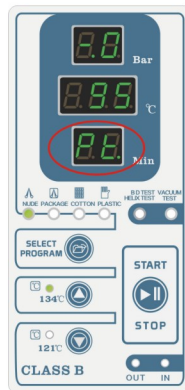

Fig. 8.4-9
(13)**Balance atmospheric and print sterilization record stage:**When the drying work into the last minute, the vacuum pump be stopped.the control system will open the air solenoid valve(Ev3) for balance between the pressure in chamber and atmospheric,so that after the end of sterilization,you can easily open the door.when the “operation display window” show “Pt” ,it means the control system has transport sterilization data to external mini-printer and Print.(Fig.8.4-9)